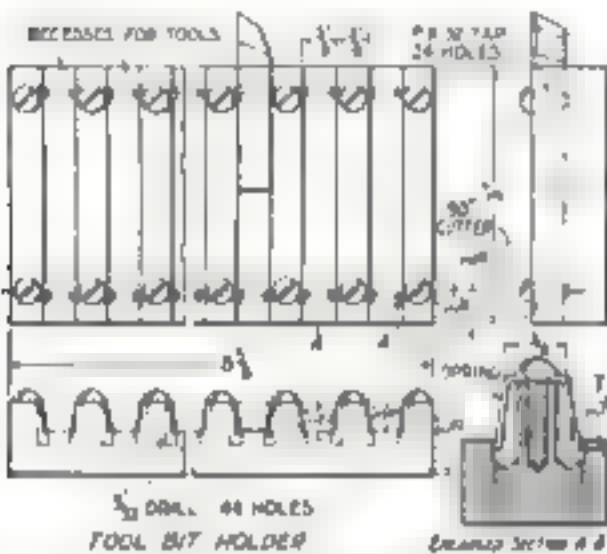

Fig. 1 The holder is a slotted aluminum plate with steel wire springs to retain the tool bits.
When we want to get a piece of fine work just right, we indicate the faceplate to make certain that it runs true. Some of us who have acquired wisdom by experience might decide to take a fine cut off it after it is in position. Yet these precautions are likely to be all in vain, if the work is clamped as at *A* in Fig. 1.
**I**N MY experience of sixteen years as a toolmaker and four years at tool designing, I have never seen a better tool-bit holder than that illustrated in Figs. 1 and 2. I made one for myself and find it saves time to be able to pick up at once the exact tool bit needed instead of having to search for it. Usually the last one that you pick up is the one you need.